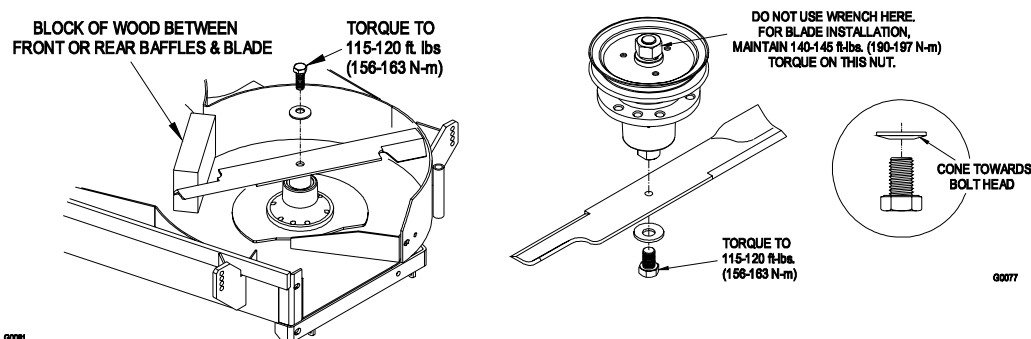

FIGURE 7
- Re-install the blades (if they were removed) in the following order (See Fig. 7):